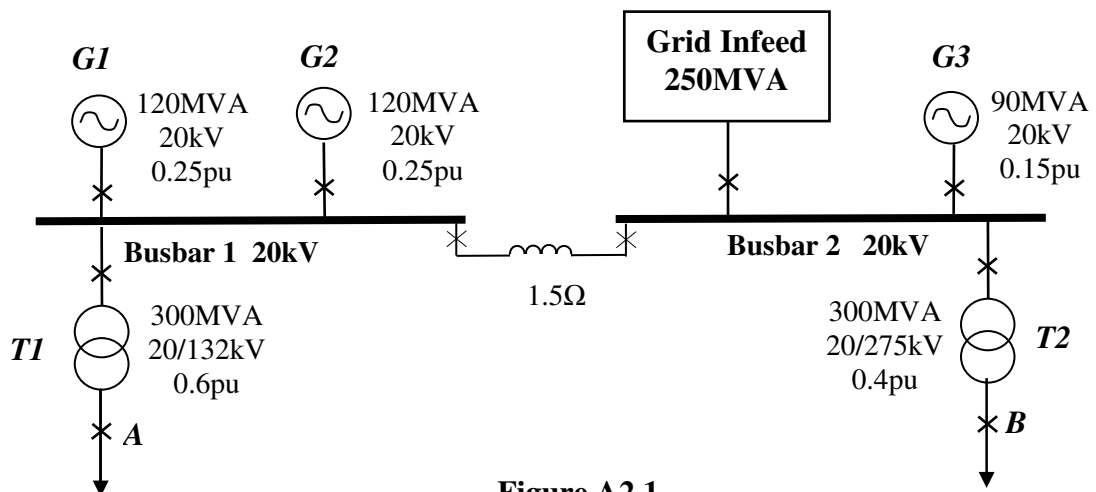

Figure A2.1
- b. Briefly outline three methods which can be used to limit fault levels in power systems. (3)
- c. Figure A2.1 shows a line diagram of a 3-phase power system consisting of two 20kV busbars linked by a fault limiting reactor of 1.5Ω . The Grid Infeed can supply 250MVA into a symmetrical 3-phase fault.